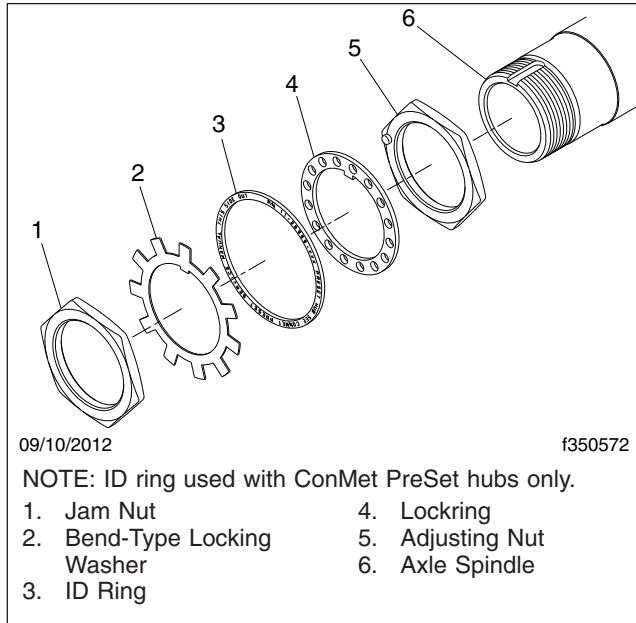

Fig. 1, Double Spindle Nut Set
ConMet PreSet hubs may use a double spindle nut system. See Fig. 1. A plastic ID ring between the adjusting nut and locking washer indicates that a ConMet Preset hub has been installed.
1. Install the adjusting nut onto the axle spindle, and tighten it 300 lbf-ft (410 N·m). See Fig. 1.